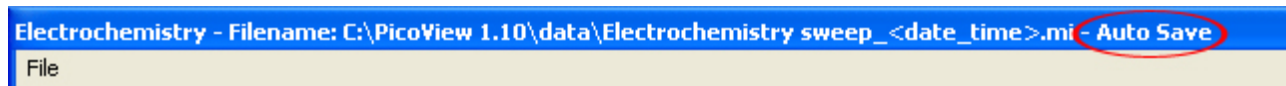

Figure 204 Auto Save turned on for Electrochemistry experiments
- 4 Turn on Auto Save by choosing **File > Auto Save Every Experiment**. The title bar at the top of the window will indicate Auto Save is on, circled in red in Figure 204. It will also be indicated by a check mark next to Auto Save in the Electrochemistry File menu.